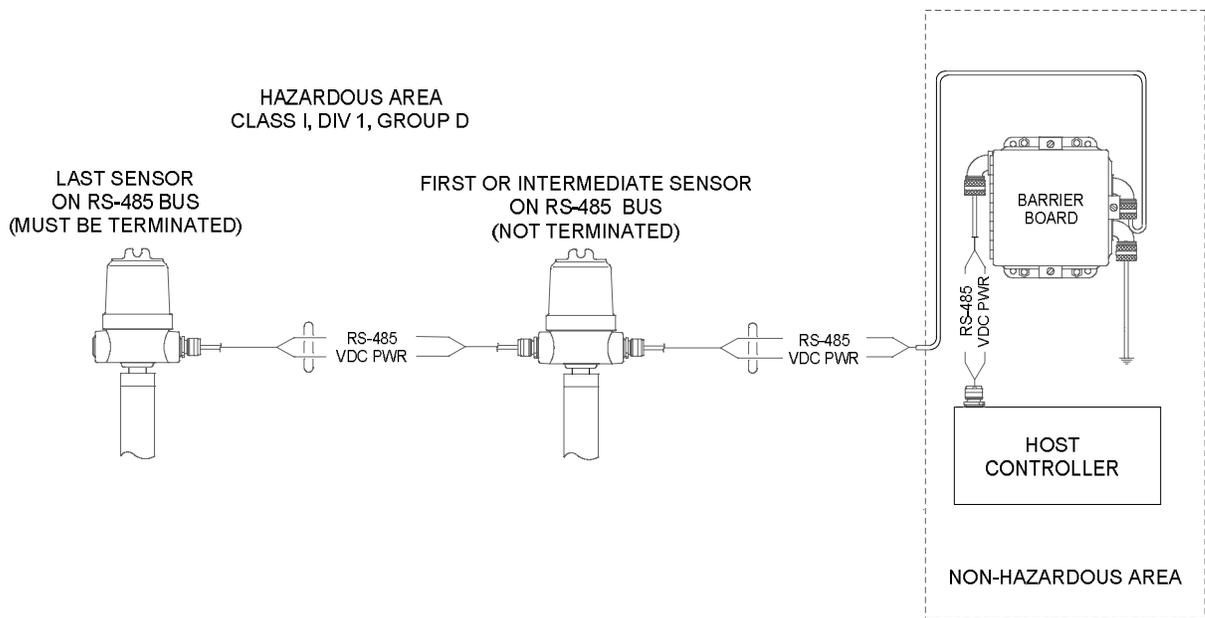

Figure 5: LevelMaster Group D hazardous location installation
LevelMaster sensors are CSA-certified for installations in hazardous locations when connected through Totalflow CSA-certified barrier boards in accordance with the Totalflow certification drawings (see Figure 5).
**i** **IMPORTANT NOTE:** Figure 5 shows the barrier enclosure (not the actual barrier board). The barrier board required depends on the location classification. Two board options are available for Class 1, Division 1 locations. For Group D, barrier boards must be part number 2100336-001. For Group C and D, barrier boards must be part number 2100336-002. Barrier boards are sold with their enclosure. Replacement barrier board kits are also available. Contact ABB for details.